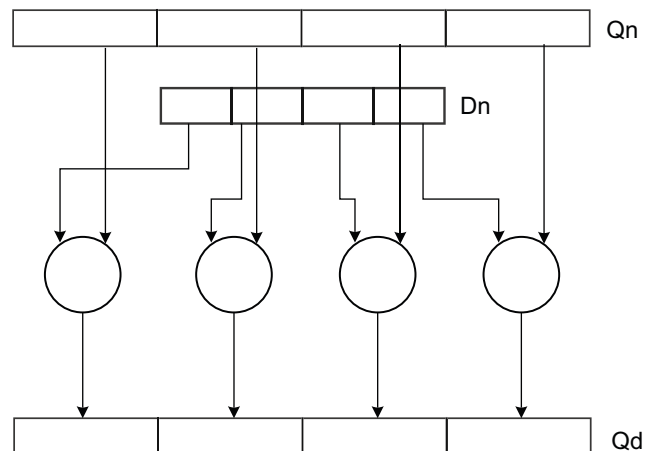

Figure 3-2 NEON wide instructions
- Wide* instructions operate on a doubleword vector operand and a quadword vector operand, producing a quadword vector result. The result elements and the first operand are twice the width of the second operand elements. Wide instructions have a W appended to the instruction. Figure 3-2 shows this, with the input doubleword operands being promoted to quadwords before the operation.